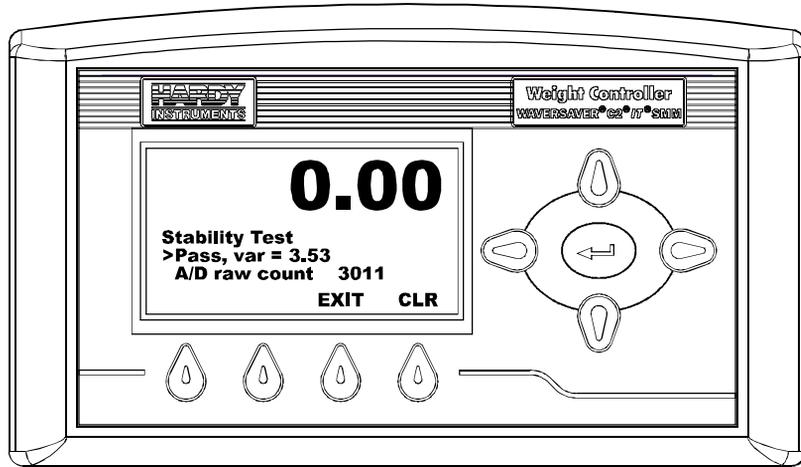

FIG. 394 STABILITY TEST/RESULTS
Step 11. Press the Enter button. The instrument performs the test and displays the results. (See Fig. 394)